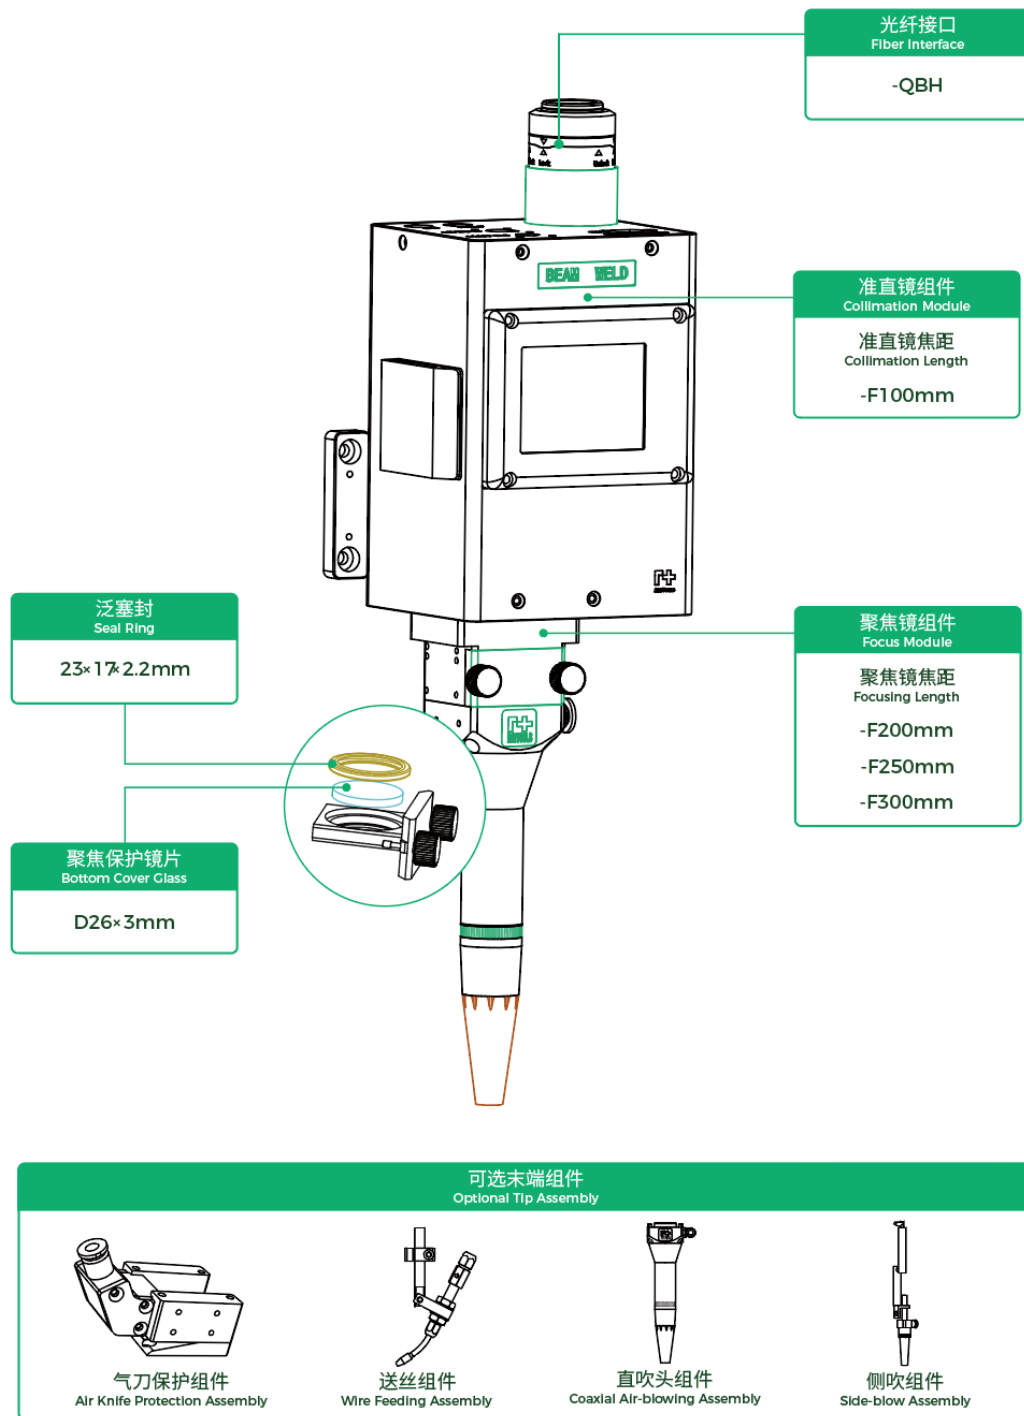

Figure 4.1
1. As shown in Figure 4.1, the protective lenses are regularly checked for dirt before initial